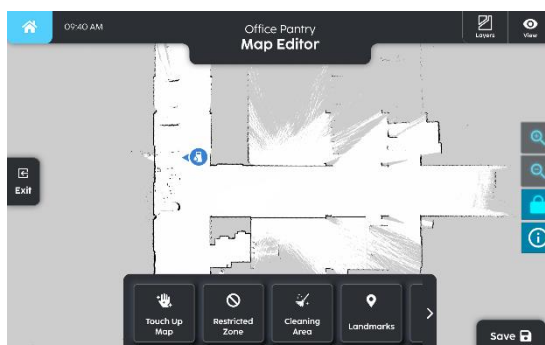

Fig 13
13. Input the docking station number (Fig 13).